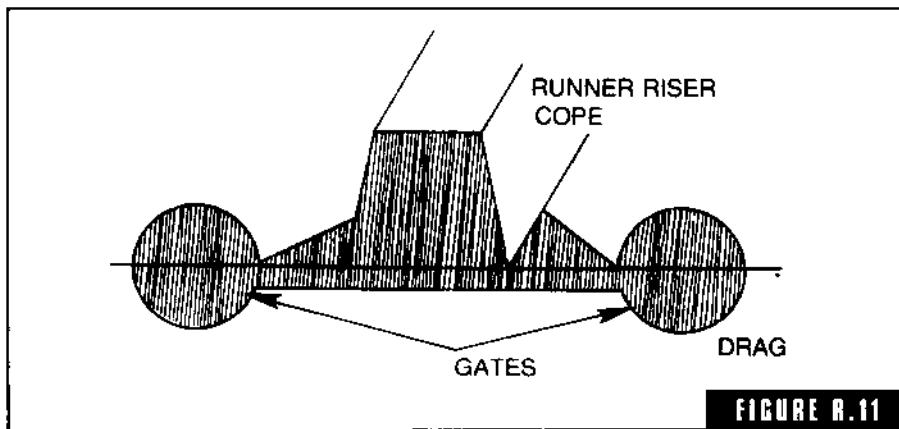

FIGURE R.11
**runner riser** A runner horizontal or vertical in the cope which acts also as a riser to feed the castings (Fig. R-11).